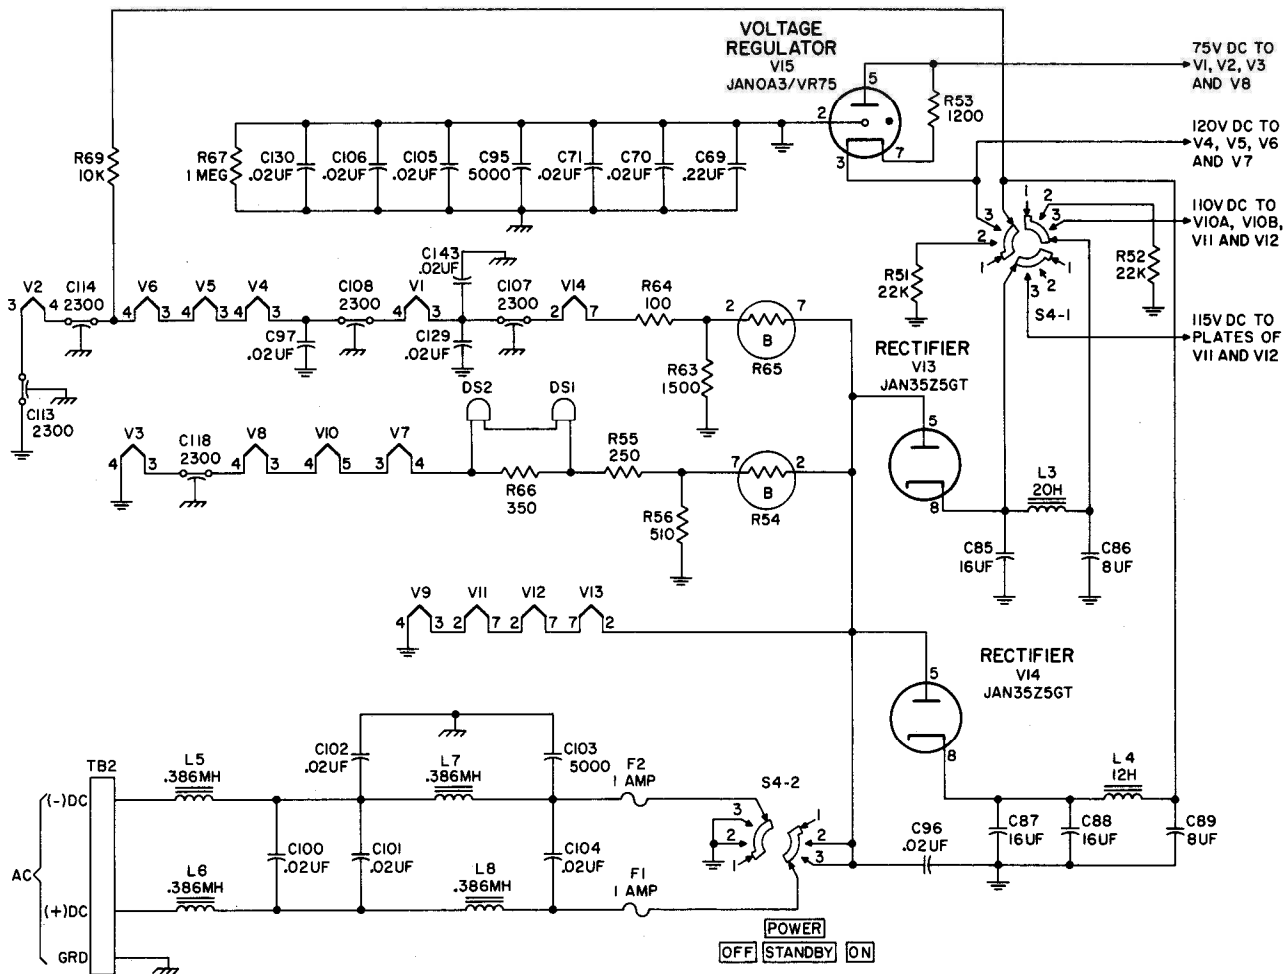

Figure 2-13. Plate, Screen Grid and Filament Circuits, Simplified Schematic Diagram
1. PLATE AND SCREEN GRID VOLTAGE SUPPLY. (Figure 2-13)
m. FILAMENT CIRCUITS. (Figure 2-13)
(1) The tube filaments in the receiver are series connected in three separate strings. This is done to allow operation of the receiver on either 115 volts, ac or dc. Since a parallel connection of the tube filaments would require a low-voltage high-current filament supply, it is most